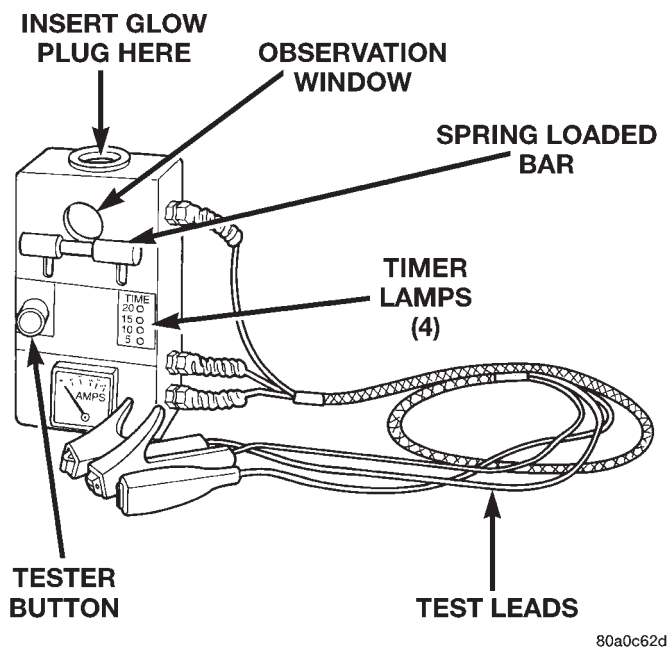

Fig. 15 Typical Glow Plug Tester
Use Churchill Glow Plug Tester DX.900 or an equivalent (Fig. 15) for the following tests. This tester is equipped with 4 timer lamps.
(1) Remove the glow plugs from the engine. Refer to Glow Plug Removal/Installation.
(2) Attach the red lead of the tester to the 12V+ (positive) side of the battery.
(3) Attach the black lead of the tester to the 12V- (negative) side of the battery.
(4) Fit the glow plug into the top of the tester and secure it with the spring loaded bar (Fig. 15).
(5) Attach the third lead wire of the tester to the electrical terminal at the end of the glow plug.
(6) When performing the test, the tester button (Fig. 15) should be held continuously without release for 20 seconds as indicated by the 4 timer lamps. Each illuminated lamp represents a 5 second time lapse.
(a) Press and hold the tester button (Fig. 15) and note the amp gauge reading. The gauge reading should indicate a momentary, initial current draw (surge) of approximately 25 amps. After the initial surge, the amp gauge reading should begin to fall off. The glow plug tip should start to glow an orange color after 5 seconds. If the tip did not glow after 5 seconds, replace the glow plug. Before discarding the glow plug, check the position of the circuit breaker on the bottom of the plug tester. It may have to be reset. Reset if necessary.